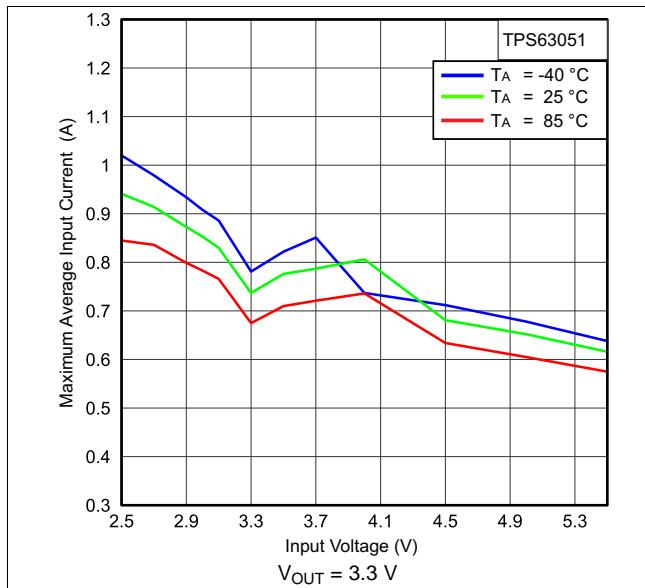
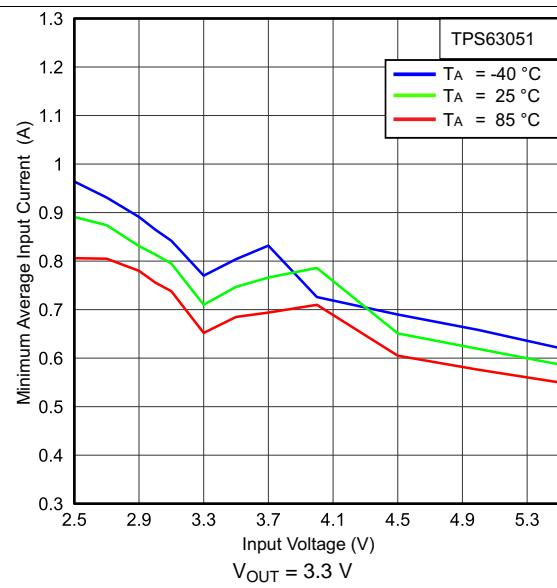

Figure 1. Maximum Average Input Current vs Input Voltage
Figure 2. Minimum Average Input Current vs Input Voltage
(1) For minimum and maximum output current in a specific working point see Figure 1 and Figure 2; and Equation 1 through Equation 4.
(2) Conditions: $f = 2.5$ MHz, $L = 1.5$ µH, $C_{OUT} = 10$ µF
The TPS6305x devices have an internal user programmable current limit that monitors the input current during start-up. This prevents high inrush current protecting the device and the application. During start-up the input current does not exceed the current limit that is set by I_{LIM0} pin and I_{LIM1} pin. Depending on the logic level applied at these two pins, switching between four different current limit-levels is possible. The variation of those values over input voltage and temperature is shown in Figure 1 through Figure 2. Adjusting the soft-start time further using the soft-start capacitor is possible.
Given the curves provided in Figure 1 through Figure 2, calculating the output current in the different condition in boost mode is possible using Equation 1 and Equation 2 and in buck mode using Equation 3 and Equation 4.
- I_{IN} = Minimum average input current (Figure 2 to Figure 2)